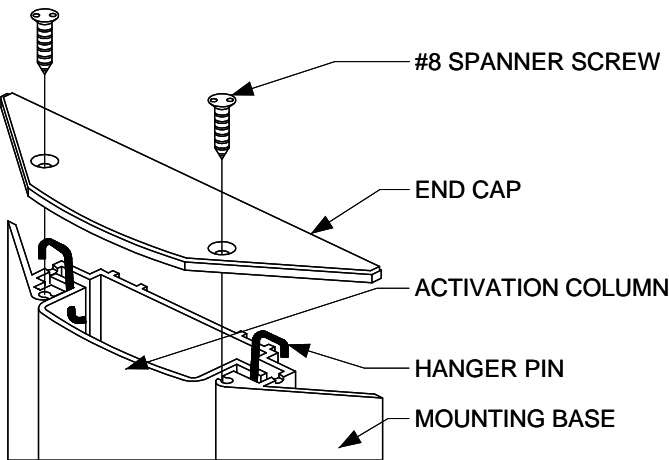
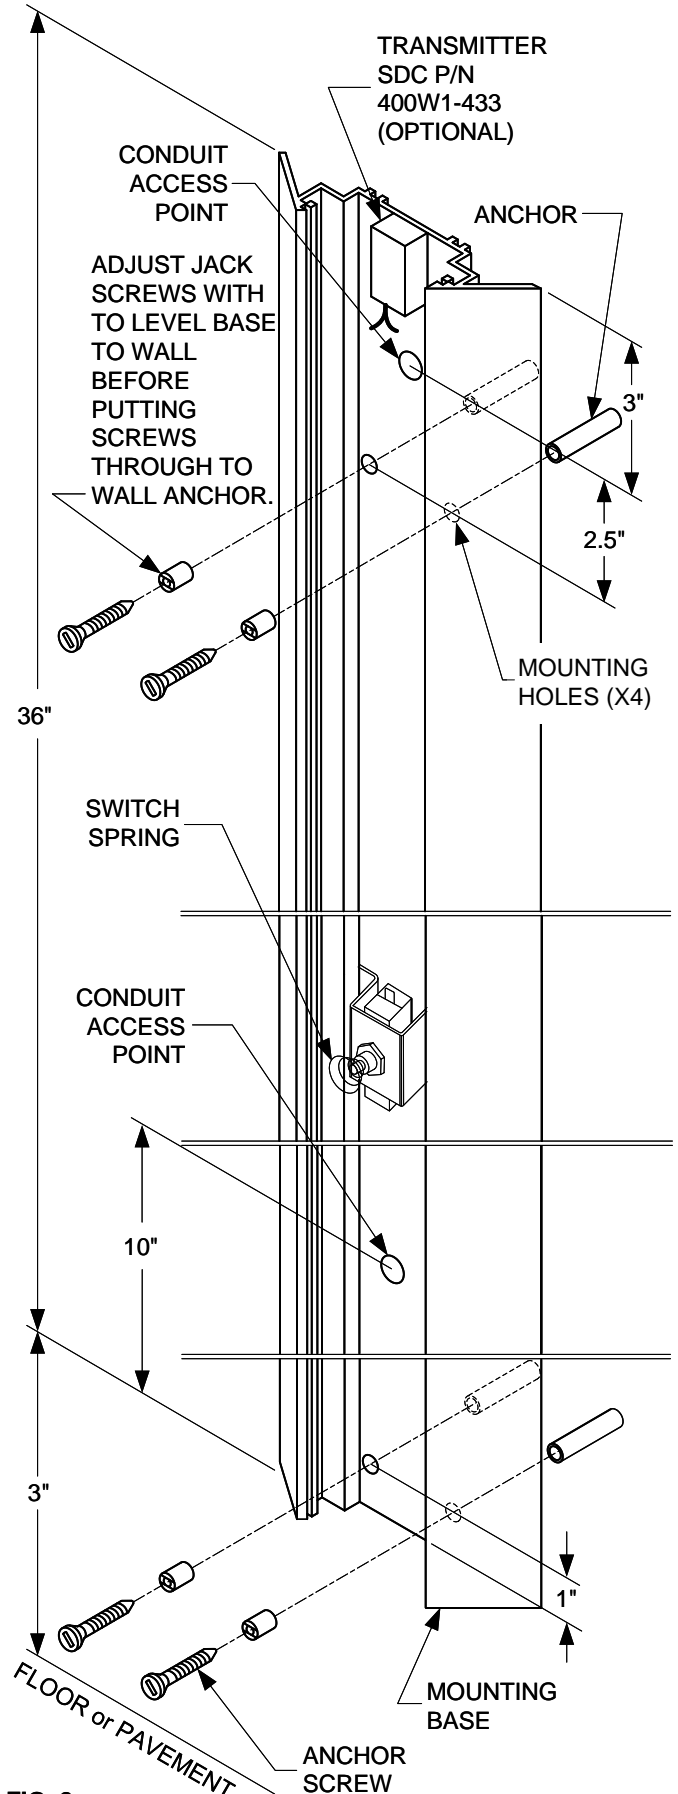

FIG. 1
FIG. 2
1. Remove Spanner Screws from the End Cap. NOTE:- SPECIAL TOOL NEEDED - #8 Spanner screwdriver bit. Slide the Activation Column out of the Mounting Base. (See FIG. 1)
2. **NOTE:** This unit is not designed to mount to a junction box. Use the enclosed hardware to mount directly to a vertical surface. Conduit access points (2) in the base are located at typical site conditions for wiring convenience.
3. **Mounting Options** (See FIG. 2):
- Wireless Transmitter:** Use the supplied wire nuts to connect the wires from the Switch Harness to the Transmitter activation wires. Use double-sided tape to secure Transmitter to the upper portion of the Mounting Base (see FIG. 2).
7. Slide the Activation Column back into the Mounting Base. Compress the Switch Spring as the Actuator passes the switch. The Hanger Pins should rest in the slots at the top of the Mounting Base (see FIG. 1).
8. Position the End Cap onto the top of the Mounting Base. Attach with the previously removed spanner security screws (see FIG. 1).